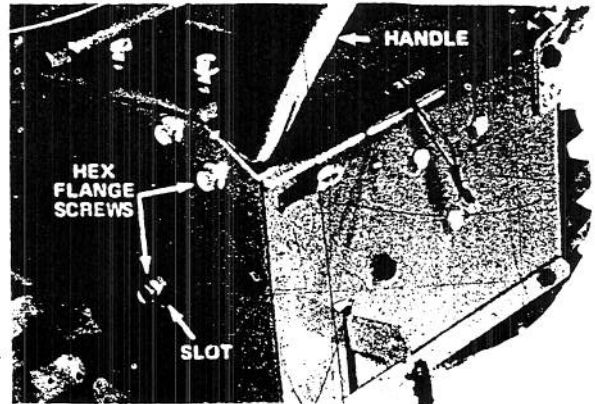

Figure 3
5. Secure handles in place with hex flange screws, but do not tighten screws (Fig. 3).
NOTE: Since lower handle mounting holes are slotted (Fig. 3), handle can be adjusted. Therefore, move handle to desired position and tighten hex flange screws to 20 ft-lb.